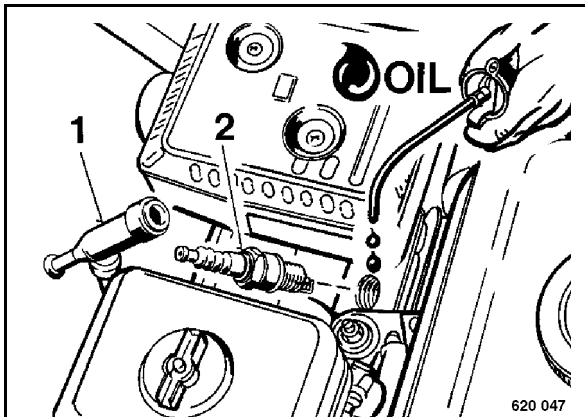

Fig. 70
- Pull off the spark plug socket (1) (Fig. 70) and unscrew the spark plug (2).